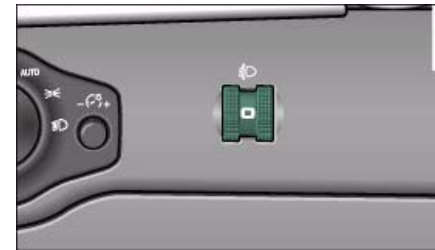

Fig. 58 Headlight range control
- Turn the thumbwheel  => fig. 58 to the appropriate setting.